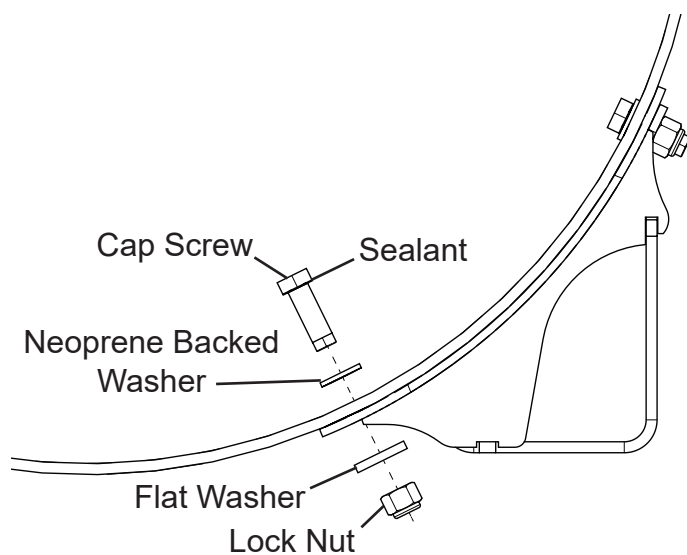

Figure 3
8. Apply a coating of sealant to the underside of the two cap screw (A000B408) heads, see Figure 3.
9. Install neoprene backed washer (A000V959) on each cap screw, see Figure 3.
10. Install cap screws from the inside of water tank, see Figure 3.
11. Install mounting foot onto the cap screws, see Figure 3.
12. Install flat washers (A000U214) onto cap screws, see Figure 3.
14. Install lock nuts (A000B539) onto cap screws, see Figure 3.